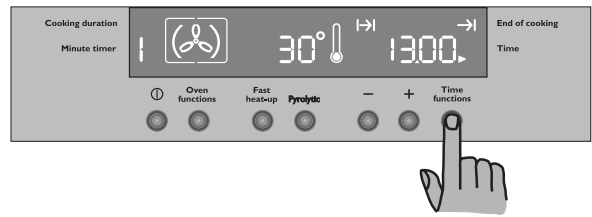

Fig. 13
- 2) Press Time functions button until the "End of Cooking" function → is selected and the relevant symbol flashes. The control panel will display the end of cooking time (that is, the actual time + cooking duration time - Fig. 13).
- 6) To switch off the acoustic alarm, press button ①.